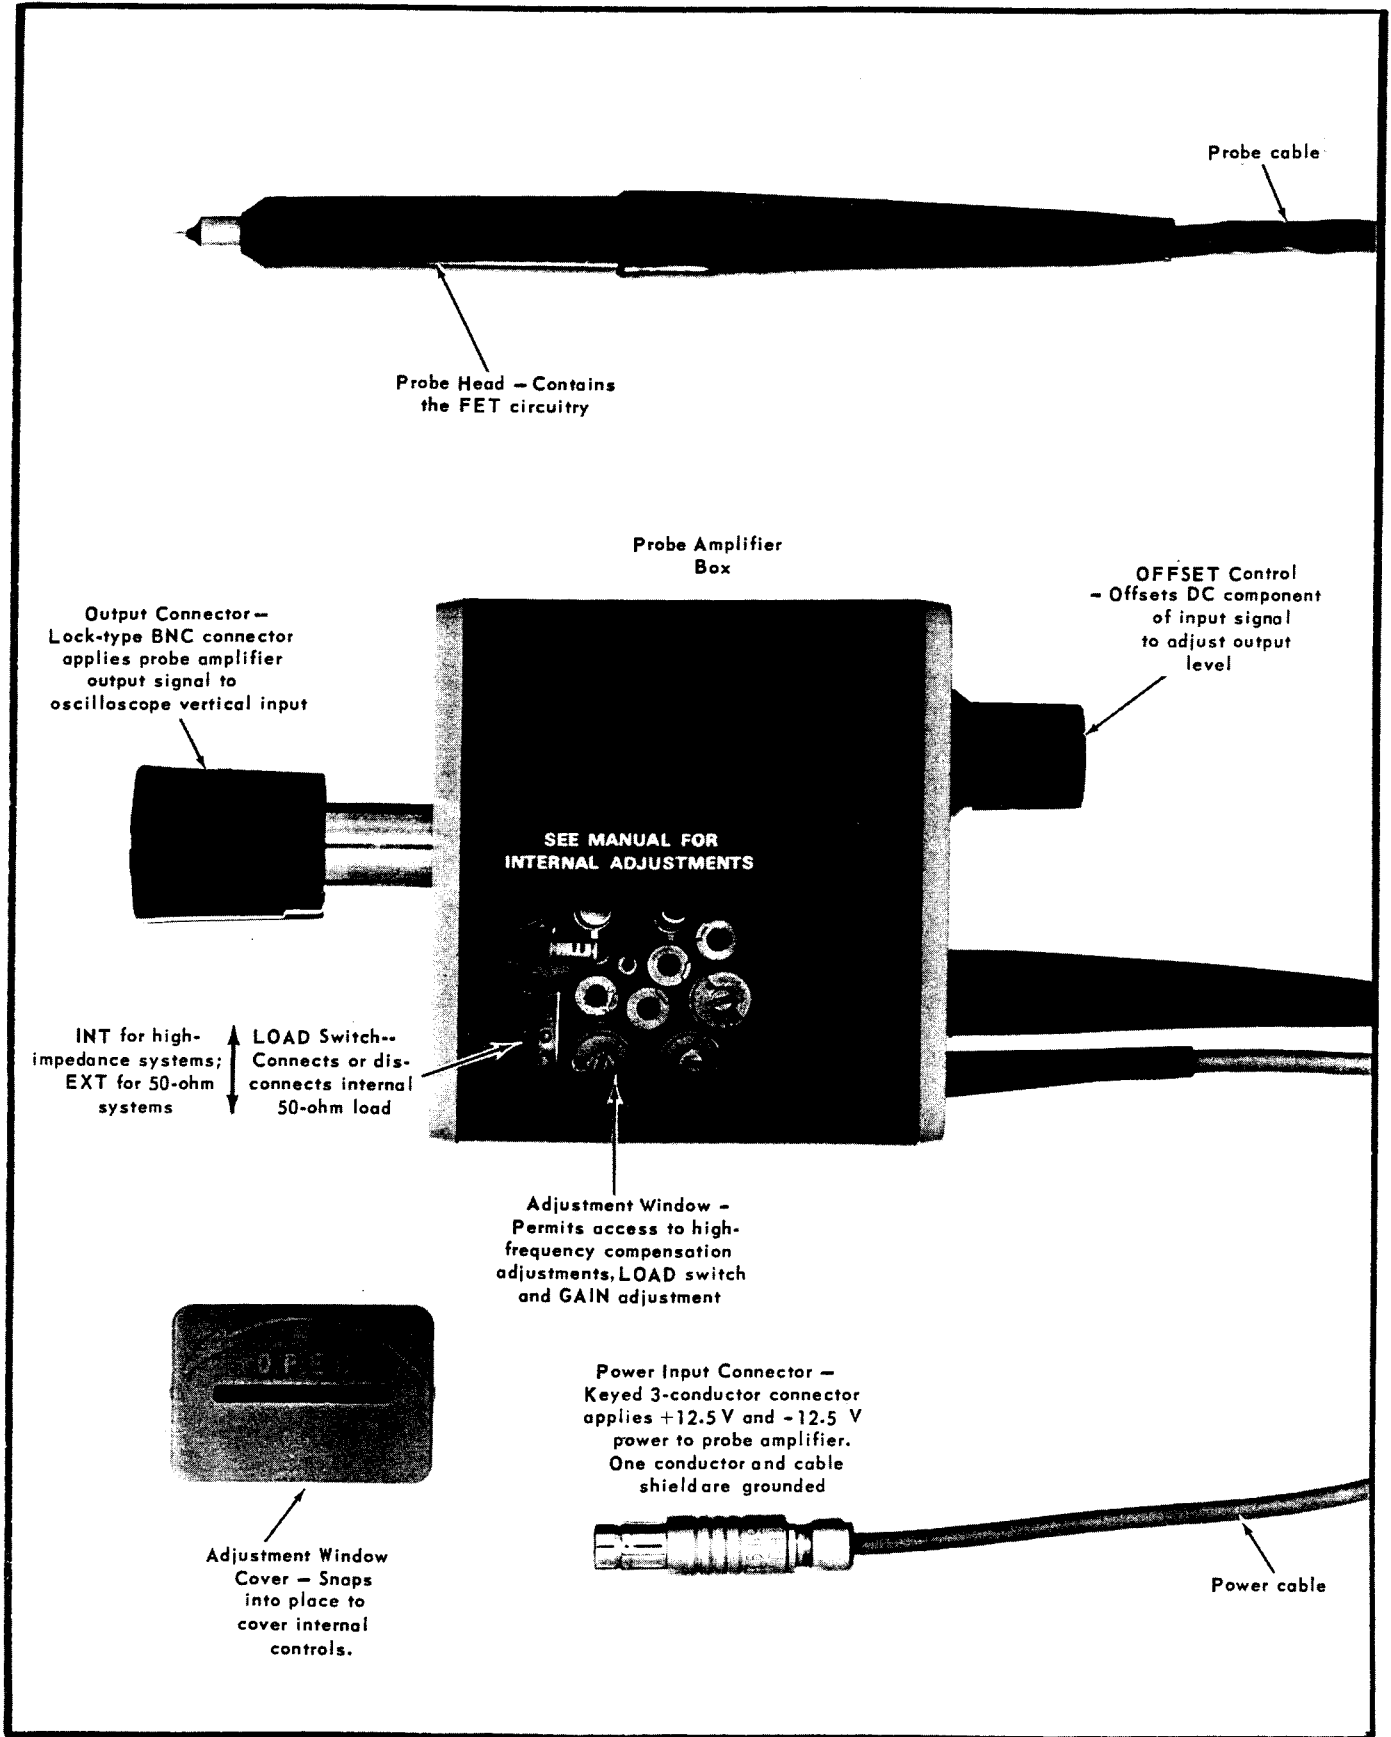

Fig. 2-1. Sections of the P6045 Probe and functions of controls and connectors.
Fig. 2-1 shows the controls and connectors on the P6045 Probe and describes the function of each.
1. Turn the locking sleeve on the output connector of the probe amplifier box (see Fig. 2-1) counterclockwise several turns.
5. Remove the adjustment window cover (see Fig. 4-1) and set the LOAD switch (see Fig. 2-1) to correspond to the system being used. For a 50-ohm system, set the switch to EXT; for a high-impedance system, set the switch to INT.